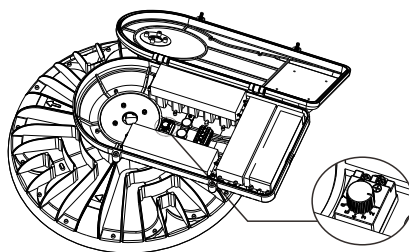

Figure 3
- For products with optional gear dimming function, the light output and input power of the lamp can be changed by shifting the knob of the dimmer, (Gear 8 = full output. Gear 1 is the minimum output Optional 25%, 40%, 50%, 60%, 70%, 80%, 90%, 100%, factory setting: "8") Figure 3 ;